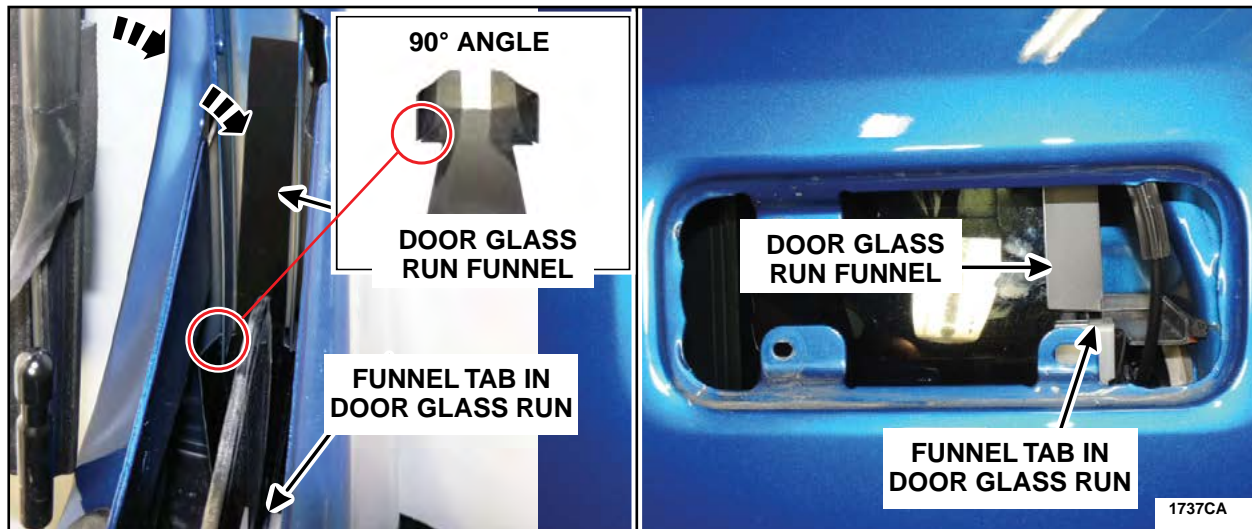

FIGURE 81
8. Install the door glass run funnel (132mm funnel wings), ensuring the lower tab is situated in the door glass run and the funnel sides sit at a 90° angle above the door glass run. Refer to Attachment V for additional information. See Figure 81.